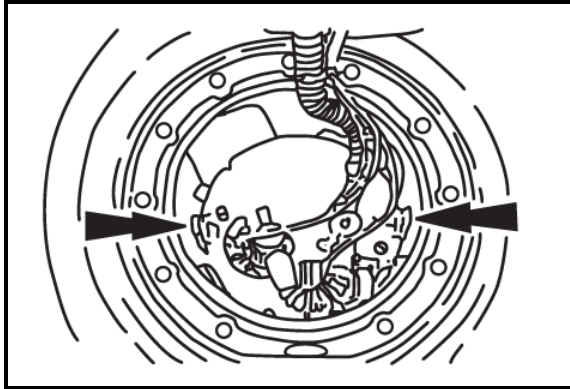

Figure 1
10. Pull the tank unit assembly flange up and out of the fuel tank until the locking tabs are accessible. Reach through the opening and squeeze the locking tabs together and remove the module from the tank by lifting up and out (Fig. 1).